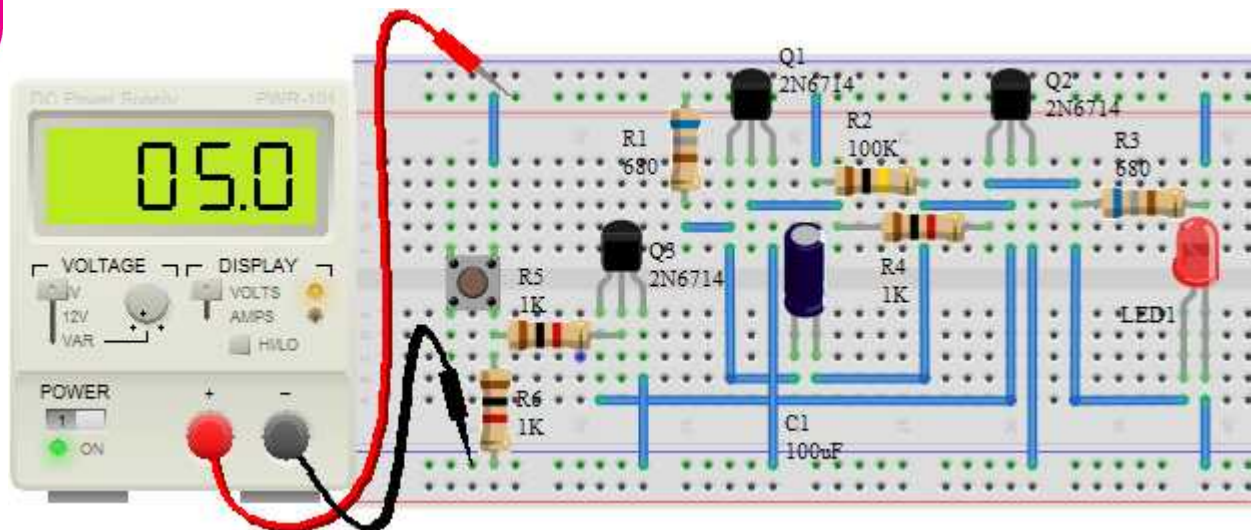

Figure 6-35: Monostable multivibrator experimental circuit connection
1. Connect the circuit as illustrated in figure 6-35.